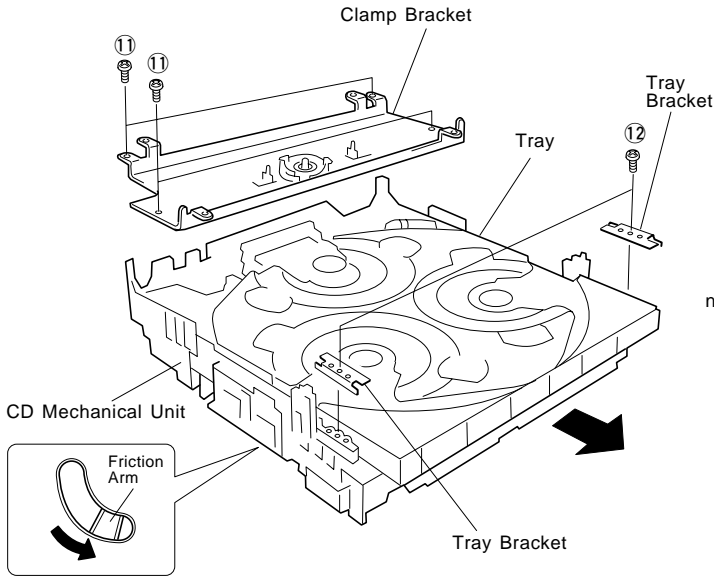

Fig. 10
- a. Remove 4 screws (⑪) and then remove the Clamp Bracket in Fig. 10.
- b. Remove 2 screws (⑫) and then remove the Tray Brackets in Fig. 10.
- c. Push the Friction Arm (the bottom side of the CD Mechanical Unit) with a screwdriver or the like and pull out the Tray forward as in Fig. 10.